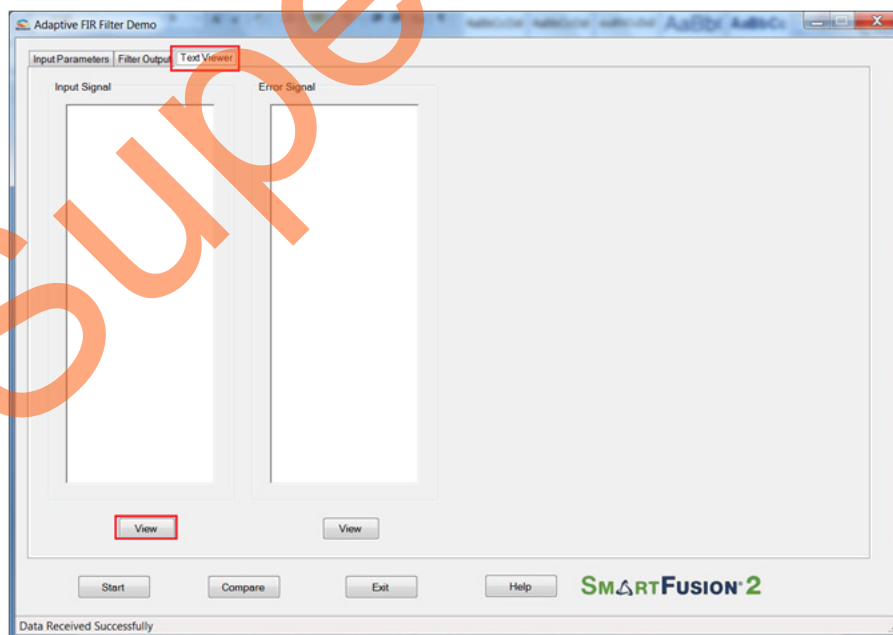

Figure 28 • Text Viewer
10. The input signal and error signal values can be viewed in the **Text Viewer** tab. Click the **Text Viewer** tab and then click the corresponding **View** shown in Figure 28.